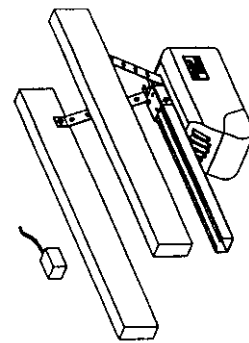

Figure 1-2
• DISCONNECT the existing external radio receiver from the garage door opener. (Figure 1-2)